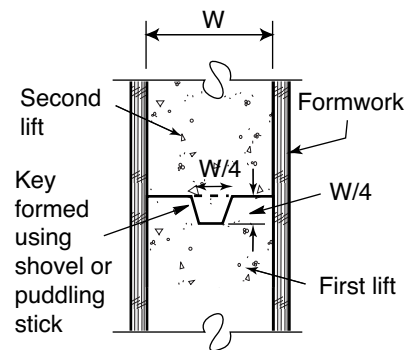

FIGURE 5
- ◆ To prevent horizontal cold joints in walls, roughen the top of the previous pour, and puddle or vibrate the next pour (see Figure 5).